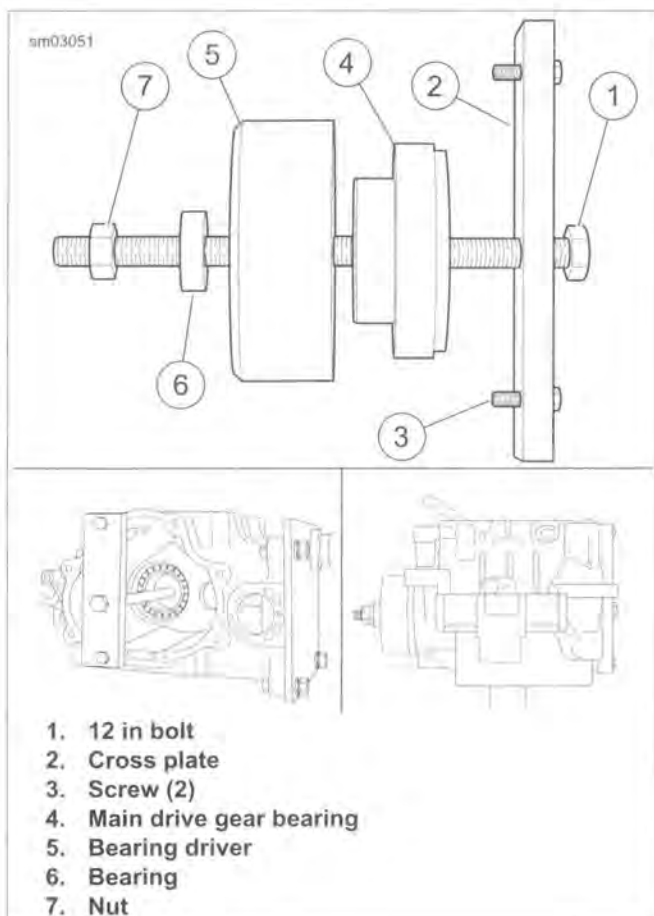

Figure 6-45. Installing Main Drive Gear Bearing (Typical)
1. See Figure 6-45. Install CROSS PLATE (Part No. HD-35316-3A):
- a. Place cross plate (2) on right side of transmission case as shown.
- c. Secure with two screws (3).
2. Apply a light coat of graphite lubricant to the threads of 12 IN BOLT (Part No. HD-35316-5) (1). Install through cross plate and main drive gear bearing bore.
3. Place main drive gear bearing (4), BEARING DRIVER (Part No. HD-35316-8) (5), bearing (6) and nut (7) over end of bolt.